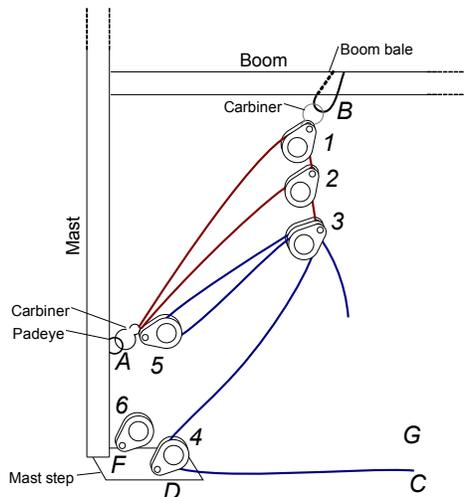

Figure 6. Rigging setup through step 17.
- 17) Run the line back up to the double block and through the other side (3b). The vang should now look something like Figure 6.